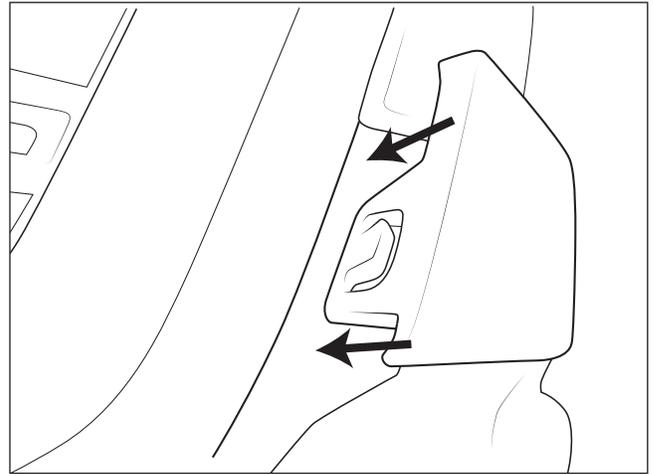

Figure 6
E. Snap the inboard side of the Headlamp Filler Panel into the grill (fig. 6).